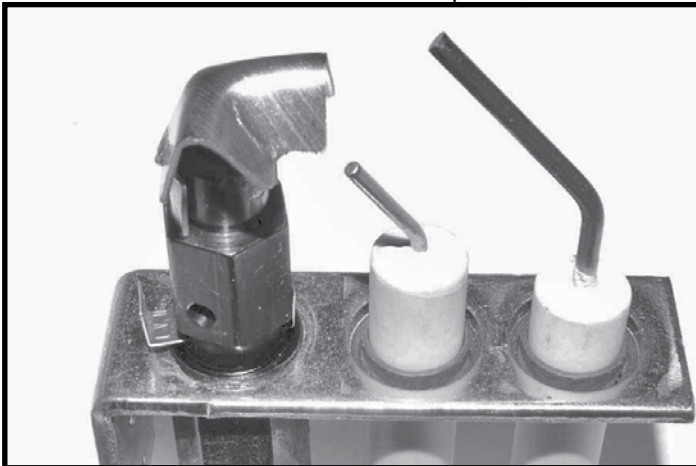
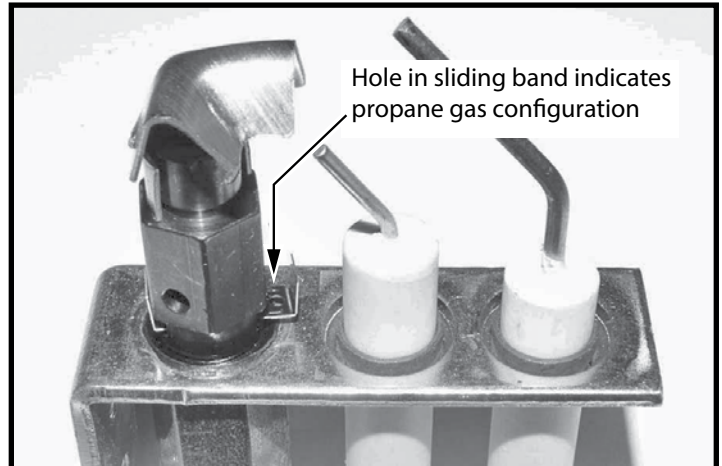

Figure 21: Pilot band in natural gas position.
Figure 22: Pilot band in propane gas position.
6. Slide the pilot adjustment band over and ensure that the hole in the orifice band is showing. (Figure 21 indicates NG position, Figure 22 indicates LP position)